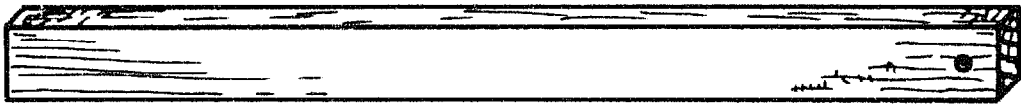

Fig. 1
- **BEVEL:** This is made by planing off the sharp edge to form a new surface which is not at right angles to the side of the piece of wood. A **CHAMFER** is a special bevel, cut at 45 degrees. A "through" chamfer or bevel runs the whole length of the edge (Fig. 1). A "stopped" chamfer or bevel is stopped at one or both ends (Fig. 2).